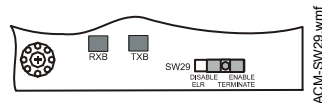

Figure 5.12 SW29 on ACM-24AT or ACM-48A
- For ACM-24AT or ACM-48A, set SW29 to “ENABLE” to install the built-in end-of-line resistor (see Figure 5.12).